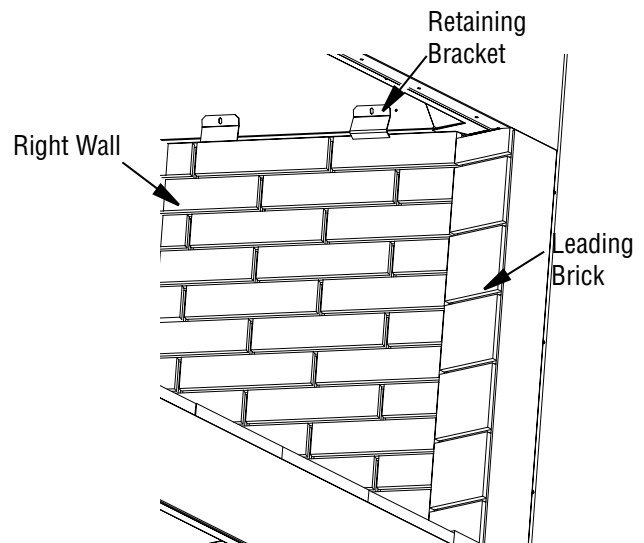

Figure 33 - Installing Side Walls
4. Secure the firebrick wall using 2 of the retainers provided. The bracket will slip underneath the metal lip on the top of the wall and screw into the inner dome of the fireplace (Figure 33).